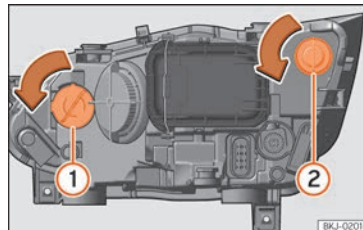

Fig. 54 In the engine compartment: turn signal light bulb ① and DRL (daytime running light) bulb ②.
- Turn the bulb holder »» Fig. 54 ① or ② to the left and pull.